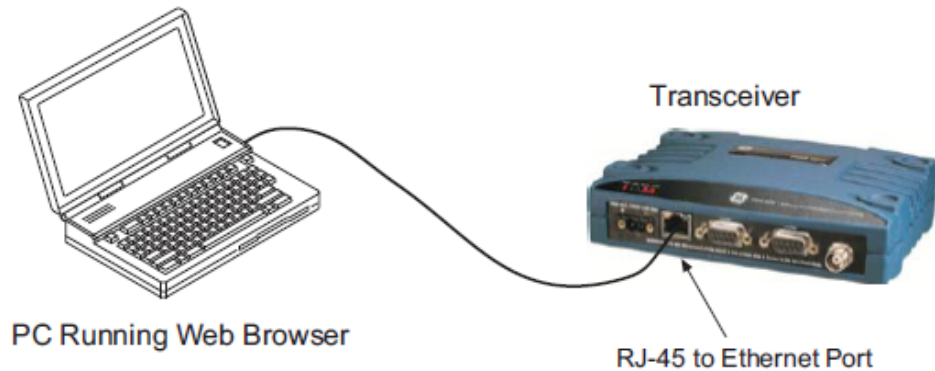

Figure 23. PC Connection to Radio for Web Management
- An Ethernet cable connected between the PC and the radio as shown in Figure 23. (Alternatively, a network connection may be used, as long as the radio can be reached via its IP address.)